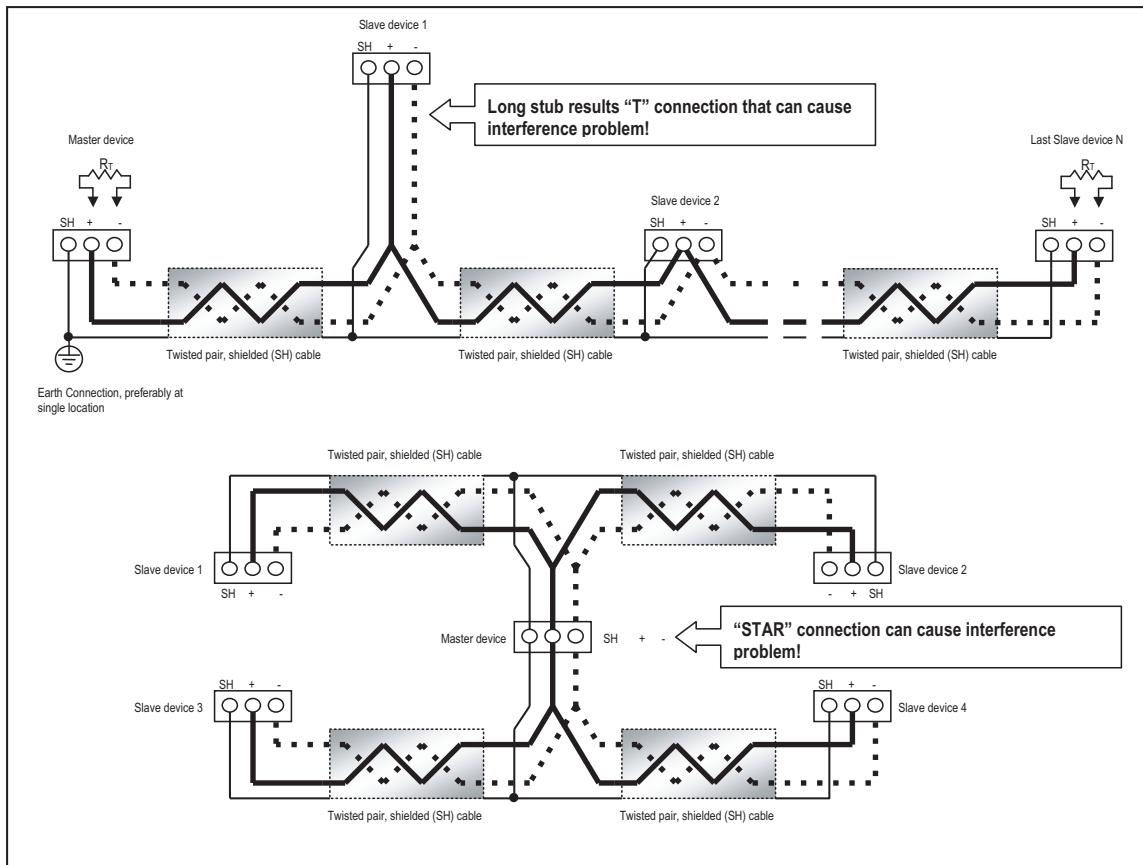

Figure 5.5: Incorrect "T" and "Star" Topologies
- Avoid both "Star" and "Tee" connections (see Figure 5.5: Incorrect "T" and "Star" Topologies, on page 5-4).